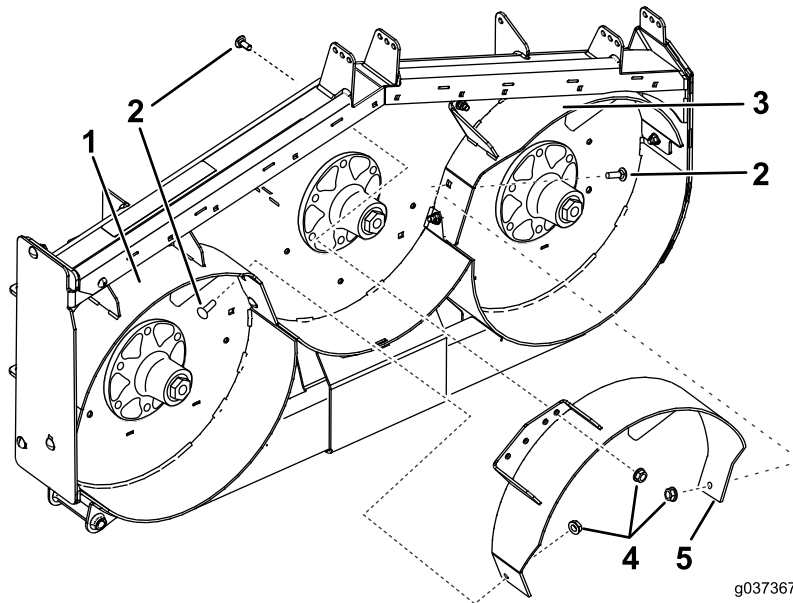
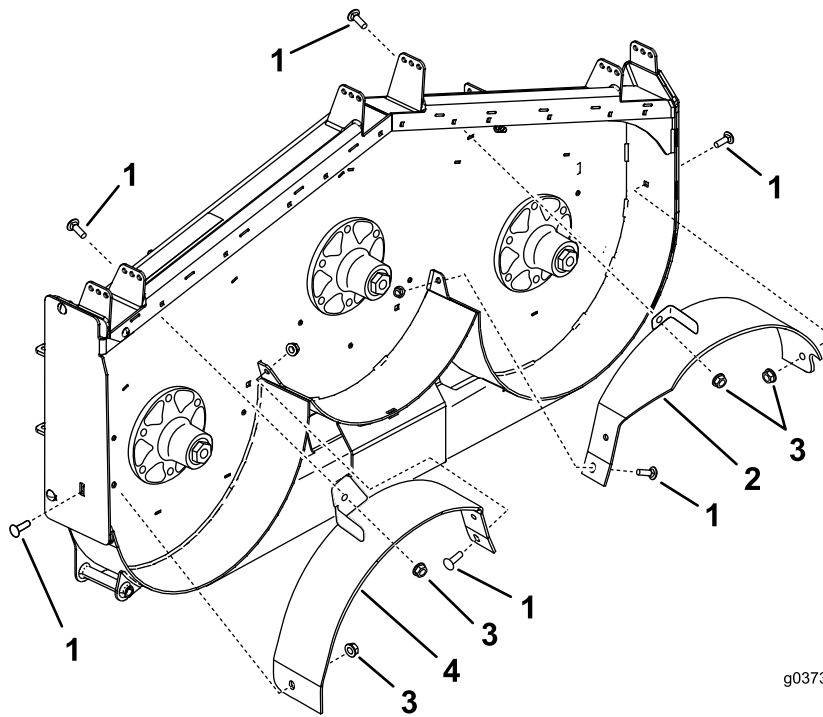
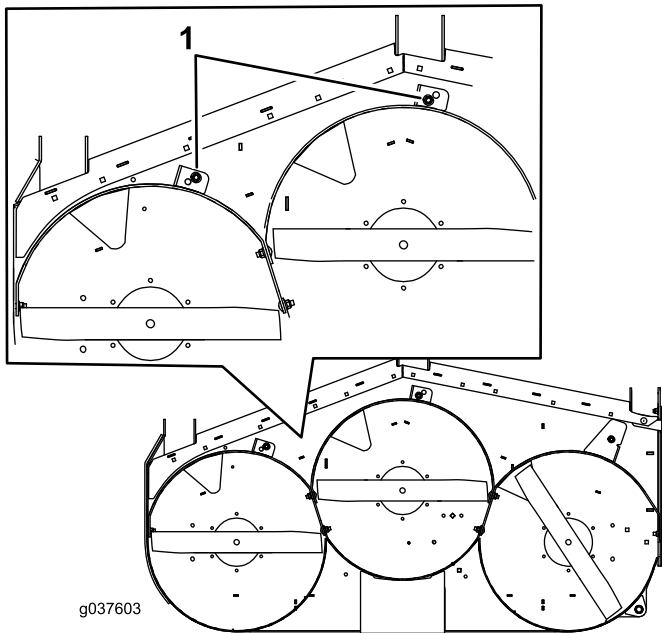
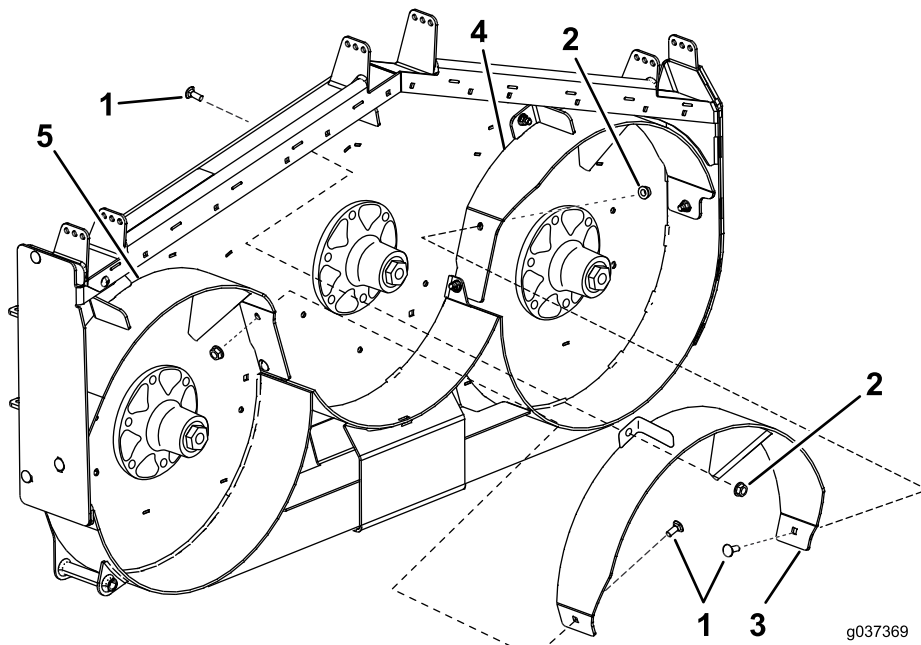

Figure 8
Figure 9
Figure 10
Figure 11
(3/8 inch) as shown in Figure 8. Refer to Figure 6 and Figure 7 for the correct holes to use.
10. Loosely install the center baffle to the left baffle with 1 carriage bolt (3/8 x 1 inch) and 1 flange nut (3/8 inch) as shown in Figure 8. Refer to Figure 6 and Figure 7 for the correct holes to use.
11. Loosely install the center baffle to the right baffle with 1 carriage bolt (3/8 x 1 inch) and 1 flange nut (3/8 inch) as shown in Figure 8.
Note: Loosely install the baffles to align the baffles with all holes in the mower (Figure 9).
6. Loosely install the left baffle to the top of the mower deck with 1 bolt (3/8 x 1 inch) and 1 flange nut (3/8 inch) as shown in Figure 9.
7. Loosely install the left baffle to the mower deck with 1 carriage bolts (3/8 x 1 inch) and 1 flange nuts (3/8 inch) as shown in Figure 9.
8. Loosely install the left baffle to the side of the mower deck with 1 carriage bolt (3/8 x 1 inch) and 1 flange nut (3/8 inch) as shown in Figure 9.
2. Loosely install the right baffle to the discharge plate with 1 carriage bolt (3/8 x 1 inch) and 1 flange nut (3/8 inch) as shown in Figure 9.
3. Loosely install the right baffle to the top of the mower deck with 1 carriage bolt (3/8 x 1 inch) and 1 flange nut, (3/8 inch). Refer to Figure 9 and Figure 10.
4. Loosely install the right baffle to the mower deck with 1 carriage bolt (3/8 x 1 inch) and 1 flange nut (3/8 inch) as shown in Figure 9.
11. Loosely install the center baffle to the right baffle with 1 carriage bolt (3/8 x 1 inch) and 1 flange nut (3/8 inch) as shown in Figure 11.
12. Loosely install the center baffle to the top of the mower deck with 1 bolt (3/8 x 1 inch) and 1 flange nut (3/8 inch) as shown in Figure 10 and Figure 11.
10. Loosely install the center baffle to the left baffle with 1 carriage bolt (3/8 x 1 inch) and 1 flange nut (3/8 inch) as shown in Figure 11.
1. Tighten all nuts and bolts for the baffles (Figure 4, Figure 5, Figure 8, Figure 9, and Figure 11).